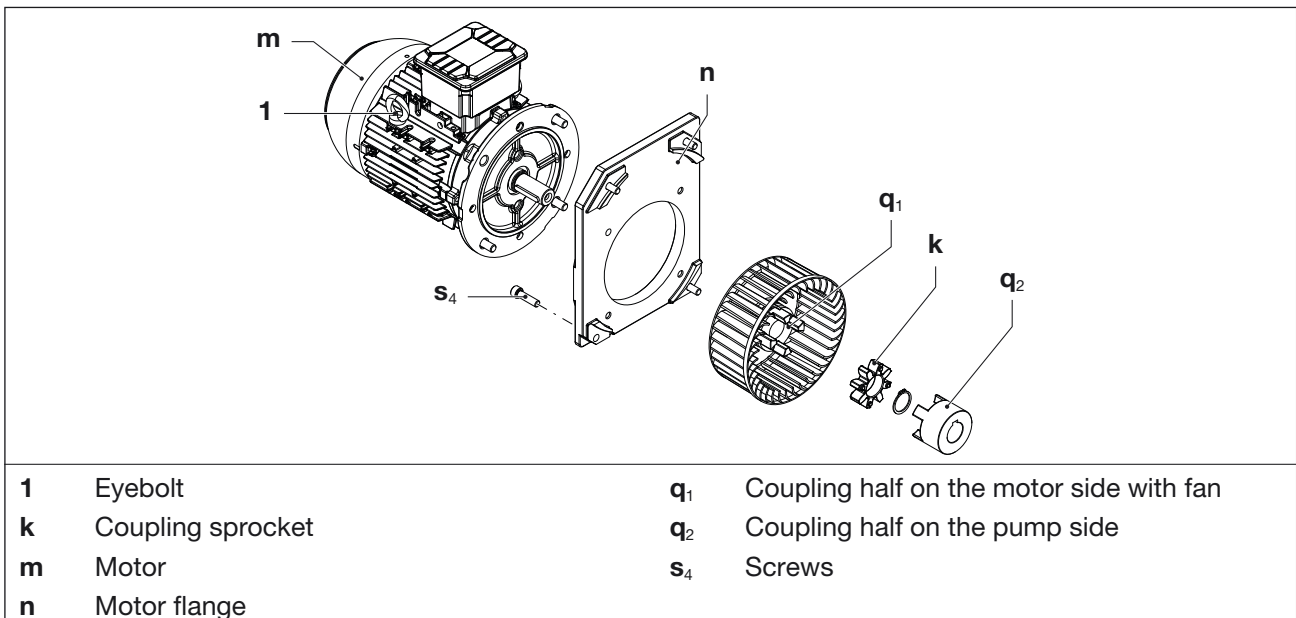

Fig. 9 Coupling
The coupling sprocket (Fig. 9/k) is subject to wear. We recommend that you check the coupling sprocket regularly (1 x per year).
- b) Tighten the eyebolt on the motor (Fig. 9/1) firmly.
- d) Undo the screws (Fig. 9/s₄) on the motor flange (Fig. 9/n).
- e) Remove the motor axially with the coupling half (Fig. 9/q₁) on the motor side from the motor flange (Fig. 9/n) and suspend with the lifting gear.
- f) Check the sprocket (Fig. 9/k) for damage and wear and replace if necessary.
- g) Also check the fan wheel on the coupling half (Fig. 9/q₁) on the motor side for damage and replace if necessary.
- h) Push the sprocket, coupling half on the motor side and the motor flange with motor again axially and fasten with the screws (Fig. 9/s₄) to the pump. Tightening torque: 25 Nm